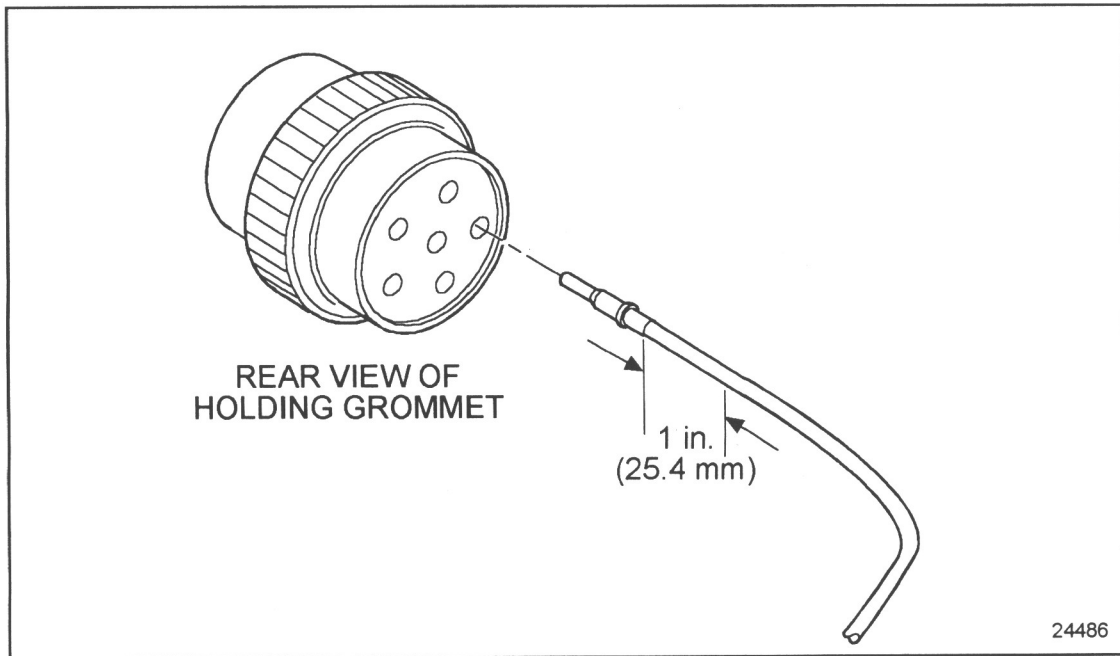
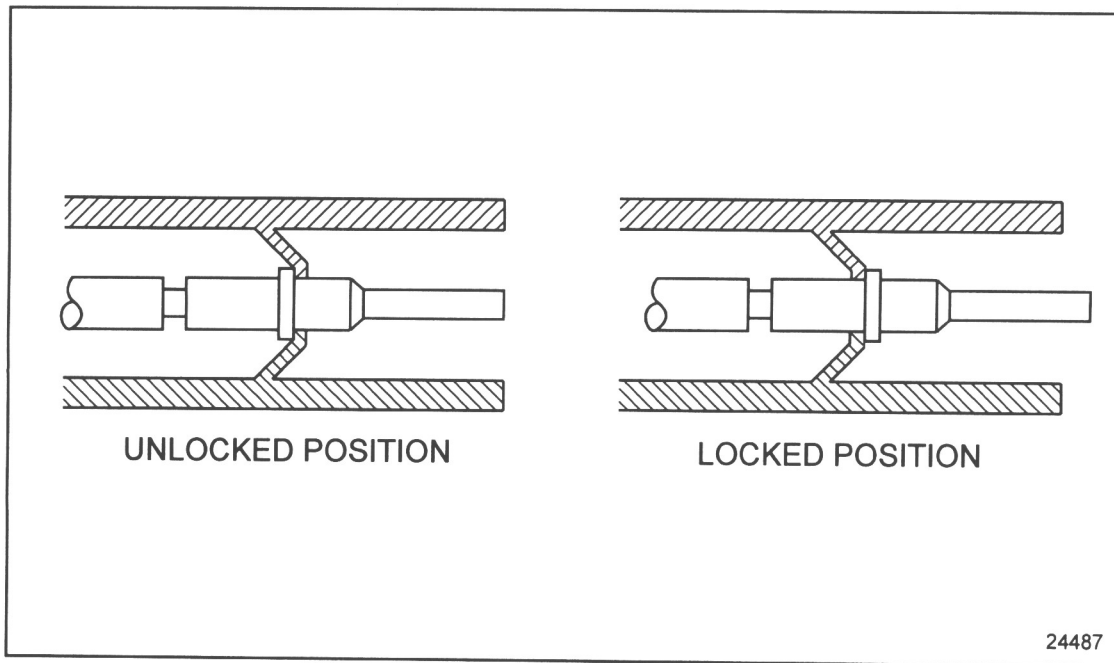

Figure 8-15 Pushing Contact Into Grommet
Figure 8-16 Locking Terminal Into Connector
See Figure 8-15.
7. Push the contact into the grommet until a positive stop is felt. See Figure 8-15. A slight tug will confirm that it is properly locked into place. See Figure 8-16.